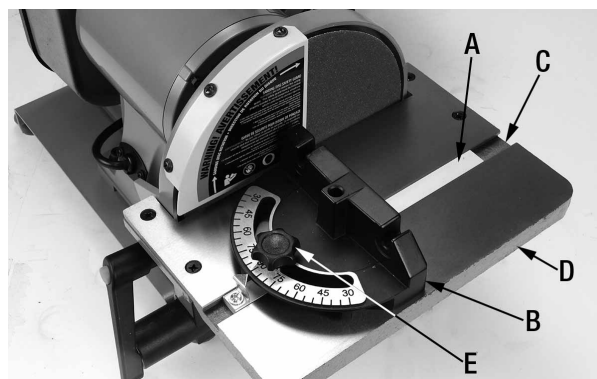

Figure 7
1. Slide the T-slot bar (A) Fig.7 of the miter gauge assembly (B) into one end of the T-slot (C) of the disc table (D).
2. To adjust the angle of the miter gauge (B) Fig.7, loosen lock knob (E), pivot miter gauge to the desired angle, and retighten lock knob. For precise angles, use a combination square to set the angle.